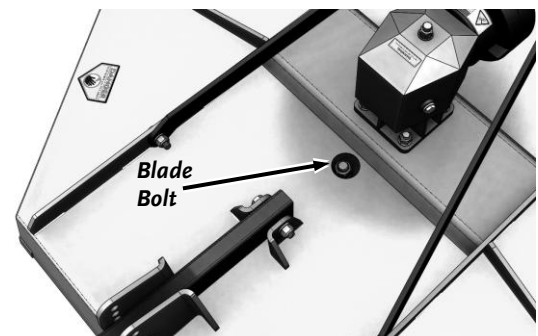

Figure 28
3. Rotate the Blade Carrier so that one of the Blade Bolts can be seen through the Access Hole on the top of the Deck (**Figure 28**).